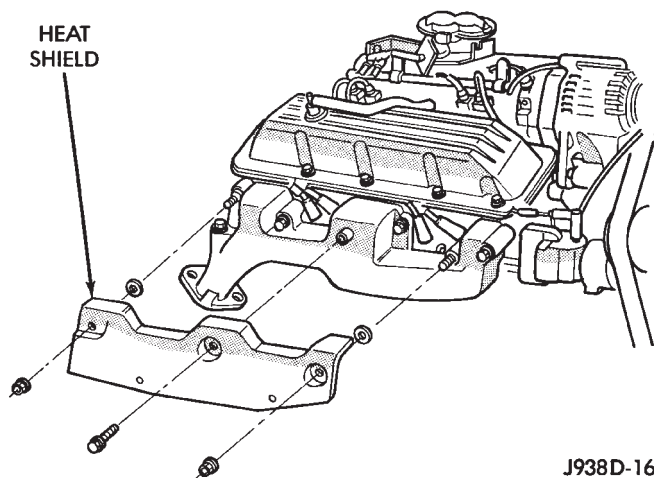

Fig. 9 Exhaust Manifold Heat Shield—5.2L Engine
(2) Remove the right exhaust manifold heat shield nuts/bolts and remove heat shield (Fig. 9).